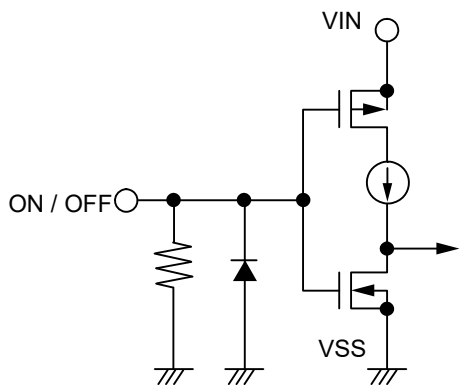

Figure 11 S-19246xxxH Series E / G type
Note that the current consumption increases when a voltage of 0.6 V to $V_{IN} - 0.3$ V is applied to the ON / OFF pin. The ON / OFF pin is configured as shown in **Figure 11** and **Figure 12**.
*2. Note that the IC's current consumption increases as much as current flows into the pull-down resistor when the ON / OFF pin is connected to the VIN pin and the S-19246xxxH Series E / G type is operating (refer to **Figure 11**).